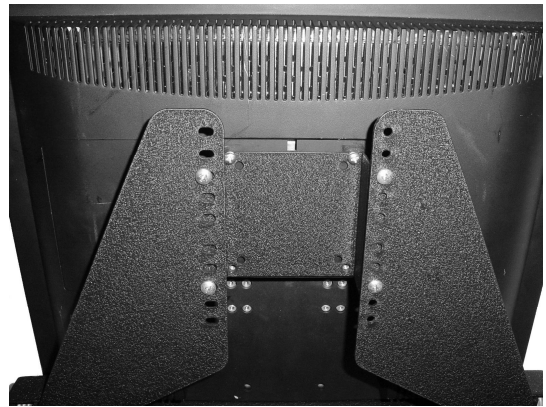

Figure 5. Install Monitor to Stand
- At the desired height, secure your monitor to the stand using four provided 10-24 x 3/8" Phillips head screws (see Figure 5).